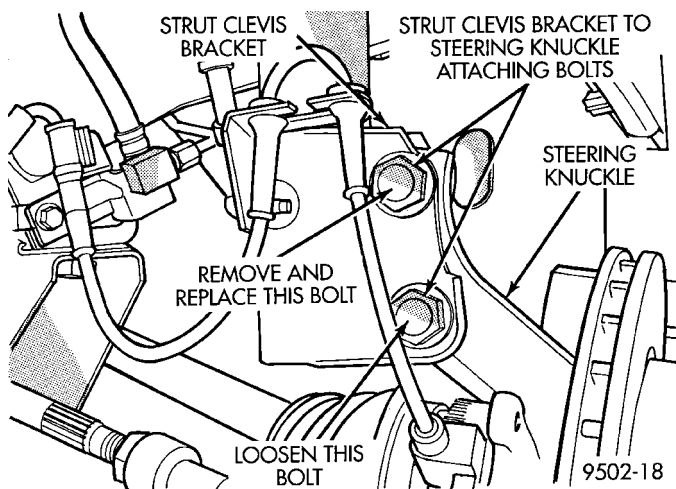
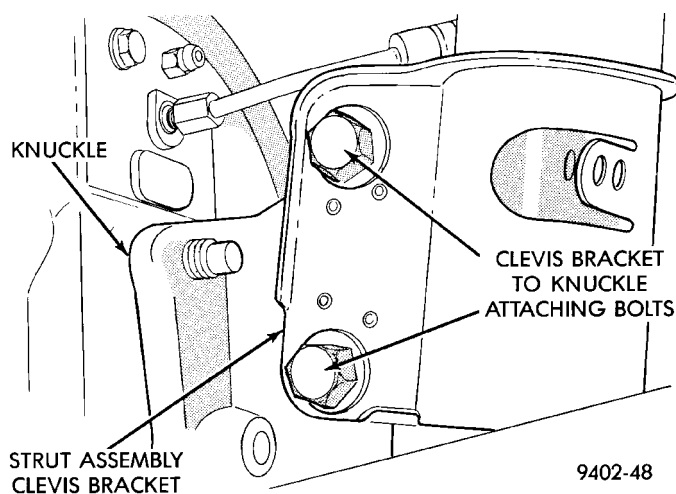

Fig. 2 Front Strut Clevis Bracket To Steering Knuckle Attaching Bolts
Fig. 3 Rear Strut Clevis Bracket Attaching Bolts
(3) Remove original upper bolt attaching the front or rear strut clevis bracket to the steering knuckle or rear knuckle (Fig. 2) or (Fig. 3).